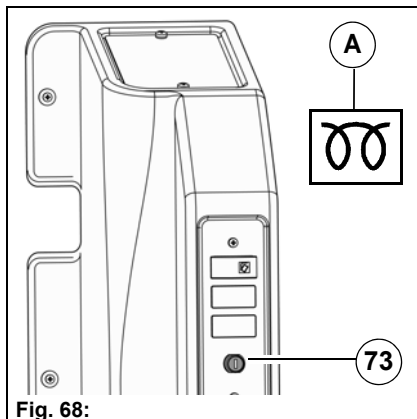

Fig. 68:
- Position 1: Preheat the engine until the control light **Fig. 68-A** goes out.